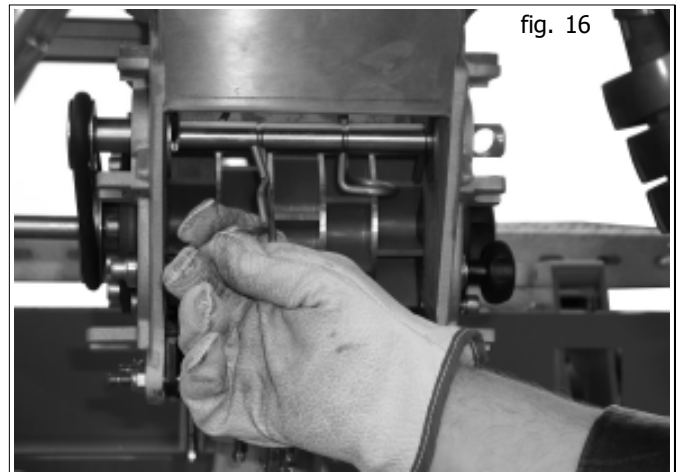

fig. 16
- To remove the curved pin, simply pull it towards yourself to detach it from the agitator axle (Fig. 16).